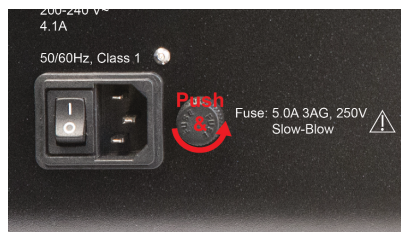

Figure 4.1: Remove fuse holders
3. Remove the fuse holder. To do this, push and twist the knob counter-clockwise (CCW) and pull the fuse holder out as illustrated in Figure 4.1.